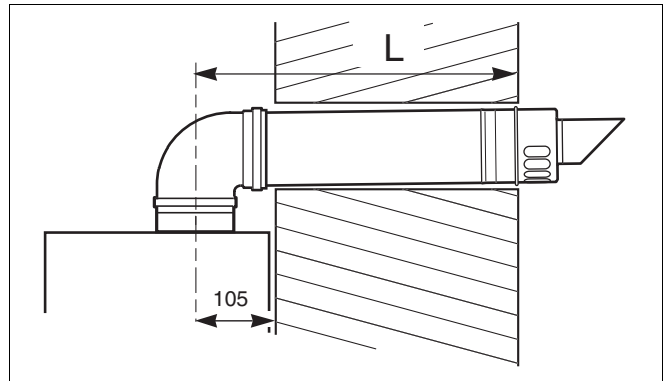

Fig. 11 Flue length - rear
- Measure the flue length L. Refer to figures 11 and 12.